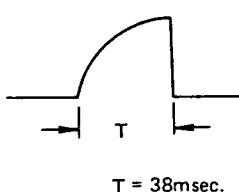

Figure 49.
2. Adjust R7001 (2H slow/still tracking preset control) so that the triangular-wave output is at the specified level (38 msec.) from the rising edge to the falling edge. See Fig. 49.
2. Adjust R7002 (3H slow/still tracking preset control) so that the triangular-wave output is at the specified level (38 msec.) from the rising edge to the falling edge. See Fig. 49.